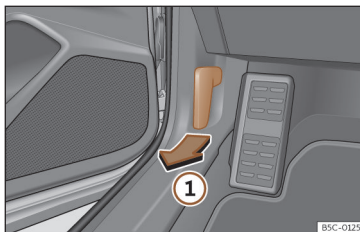

Fig. 220 Release lever in the driver's footwell area.
- Open the door and pull the lever that is underneath the instrument panel >>> **Fig. 220** .